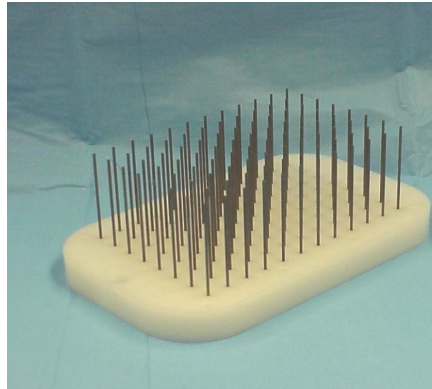

Figure 11: Needle plate with all needles installed
- If a needle is out of alignment with other needles in the row, apply a gentle bending hand force to that needle until it is straight and aligned with the other needles along both the length and width of the plate. (See Figure 11.)